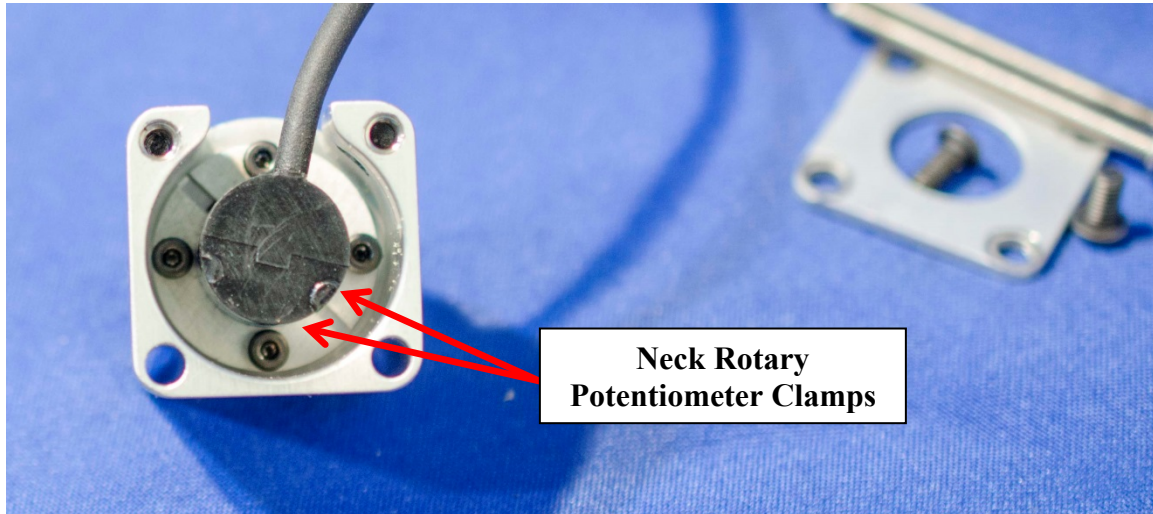

Figure 4-38. Install neck rotary potentiometer
4.2.2.25 Insert the Neck Rotary Potentiometer Washer (472-2021) into the Neck Rotary Potentiometer Housing (472-2013), then install the Occipital Condyle Rotary Potentiometer (SA572-S114) into the housing (Figure 4-38). Secure the two Neck Rotary Potentiometer Clamps (472-2020) over the base of the potentiometer and into the housing using four M2 x 0.4 x 6 SHCS.